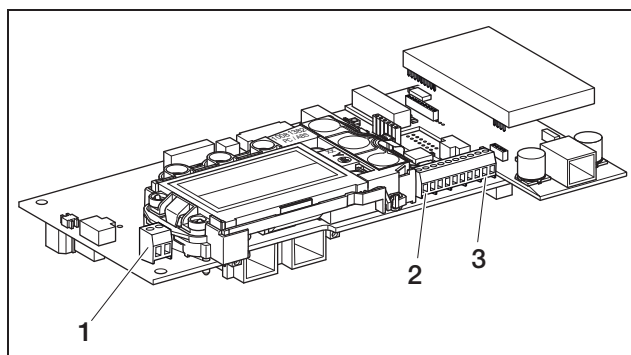

Fig. 61: Communication board II connections
- Connect all wires to the appropriate terminals (fig. 61, position 1).
- Connect the lines to the terminal (4 in figure 61) according to the terminal assignment (table 10).